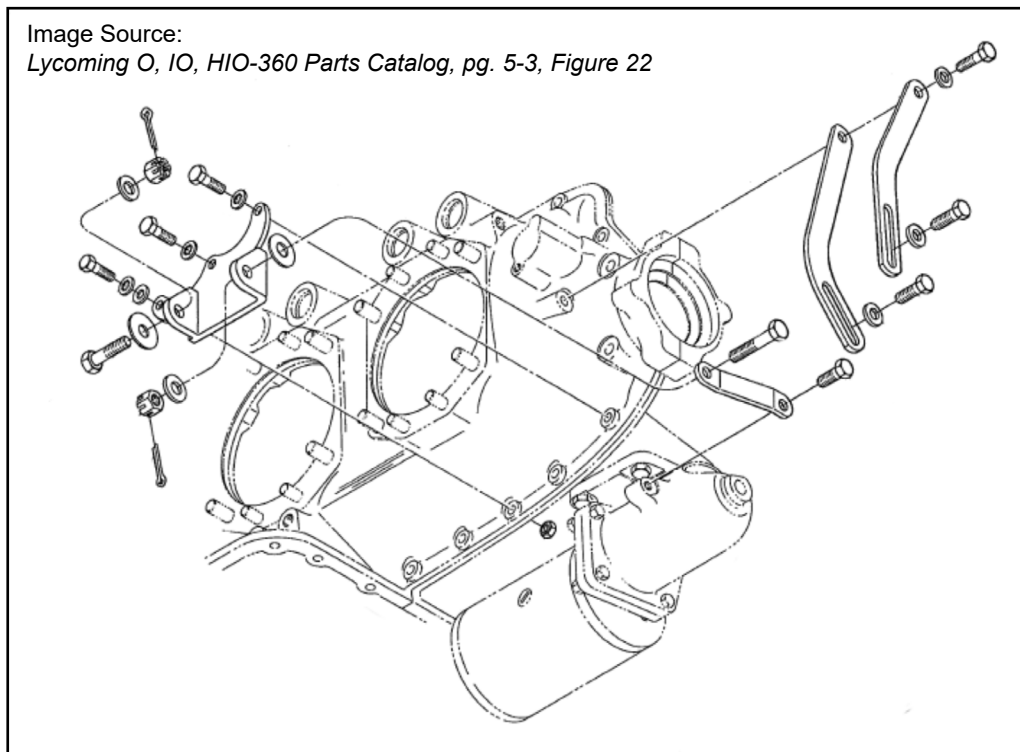
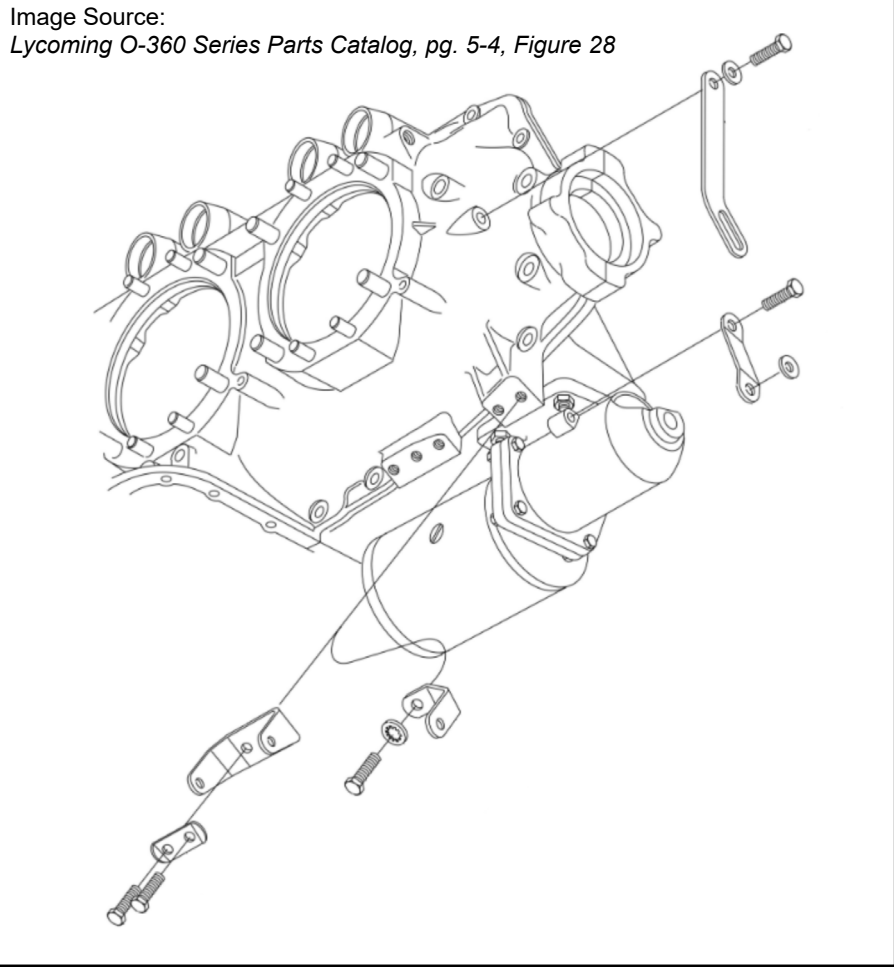

Fig. 1-3 - Alternator Case Mount
Fig. 1-4 - Alternator Boss Mount
- A. Eligibility can be determined using the relevant AML or PMA supplement except in some cases where a Lycoming engine is installed. Lycoming engines changed the design of the crankcase and alternator mounting bracket in the 1960's; refer to Lycoming SL L220. The narrow deck cylinder engines use a "case mount" style bracket (Fig. 1-3) and the wide deck cylinder engines use a "boss mount" style bracket (Fig. 1-4). Because of this change, the same aircraft may use a different kit based on the mount style present.